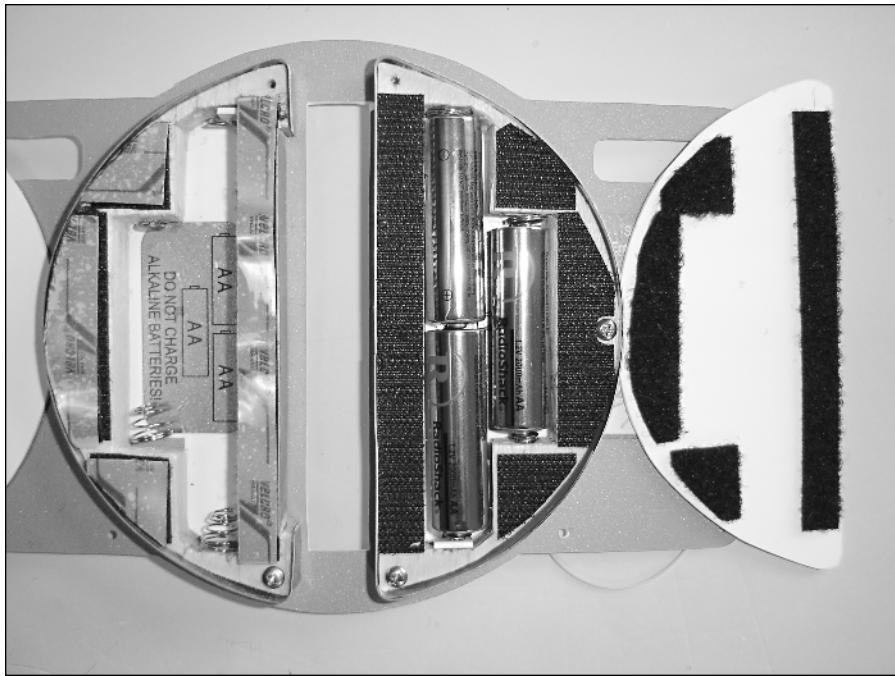

FIGURE 10-18: Velcro placement on the battery compartments and covers.
1. Cut up pieces of Velcro, and put them on the balsa as seen in Figure 10-18. Cut identical pieces for the doors themselves and place them Velcro-side down on the balsa pieces.